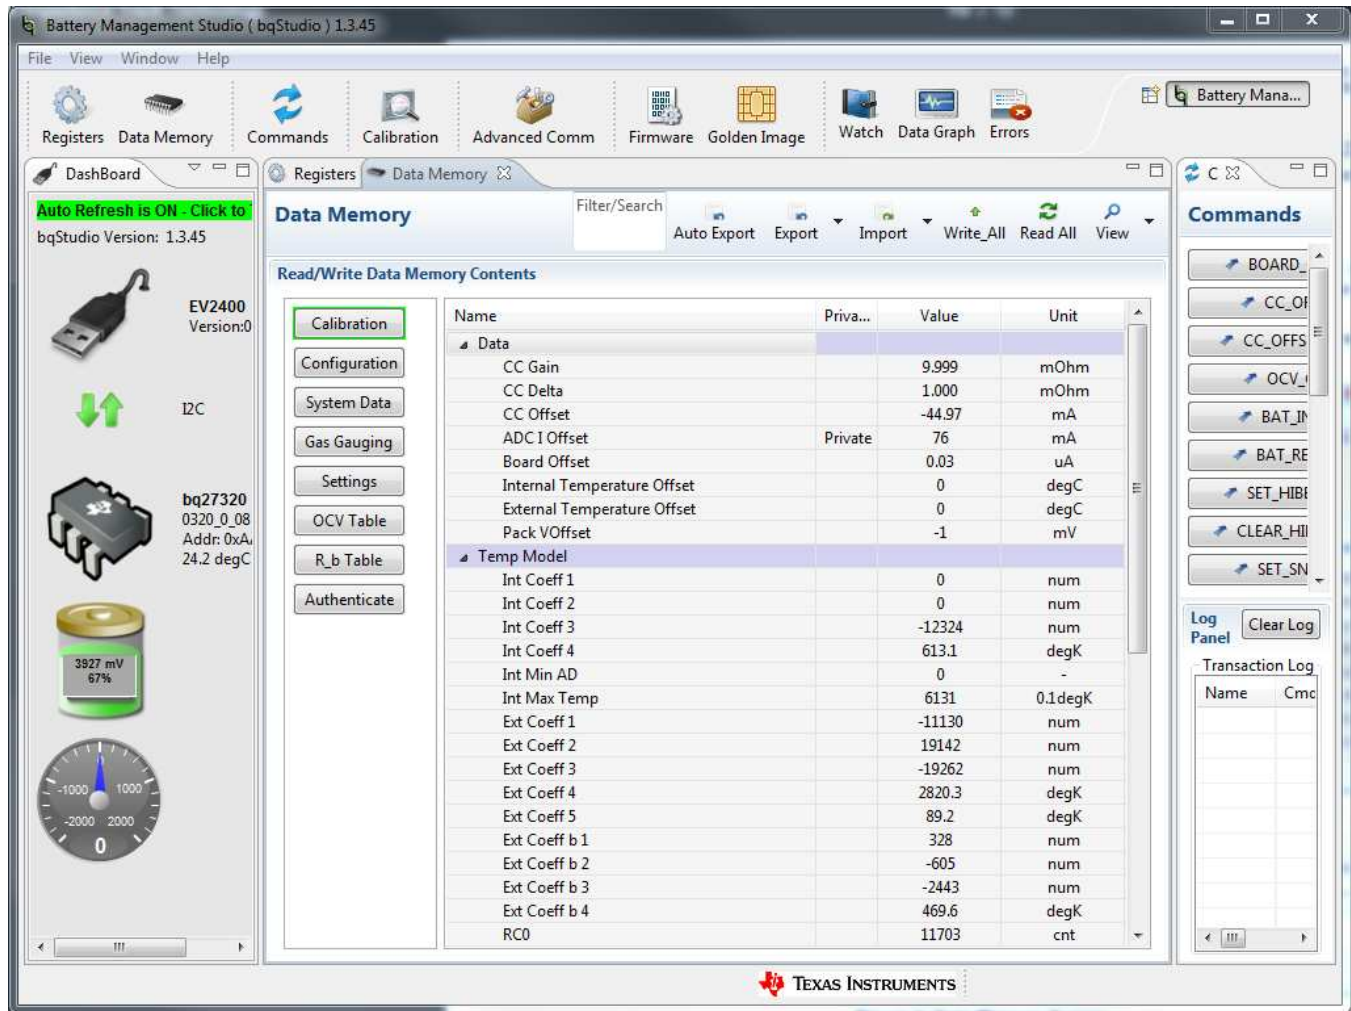

Figure 3. Data Memory Screen
**IMPORTANT:** The correct setting of these options is essential for the best performance. Configure the settings using the *Data Memory* window (Figure 3).